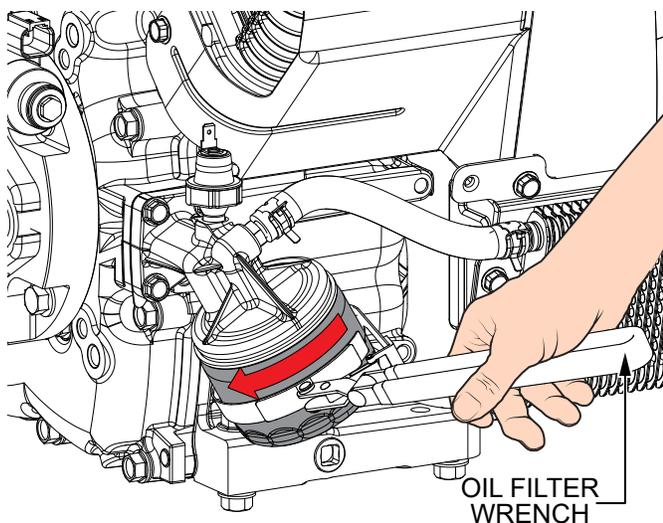

Figure 35. Oil Filter Removal
- Using a filter wrench (Figure 35), turn the oil filter counterclockwise to remove.